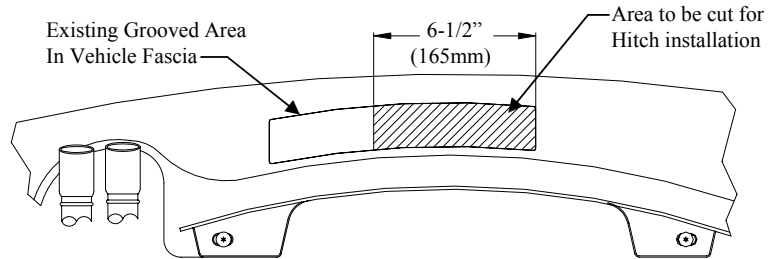

Figure 2 (Looking up from under vehicle)
1. Locate existing grooved area on bottom of fascia to be cut as shown in Figure 2. Cut fascia as shown to access mounting holes in vehicle cross member.